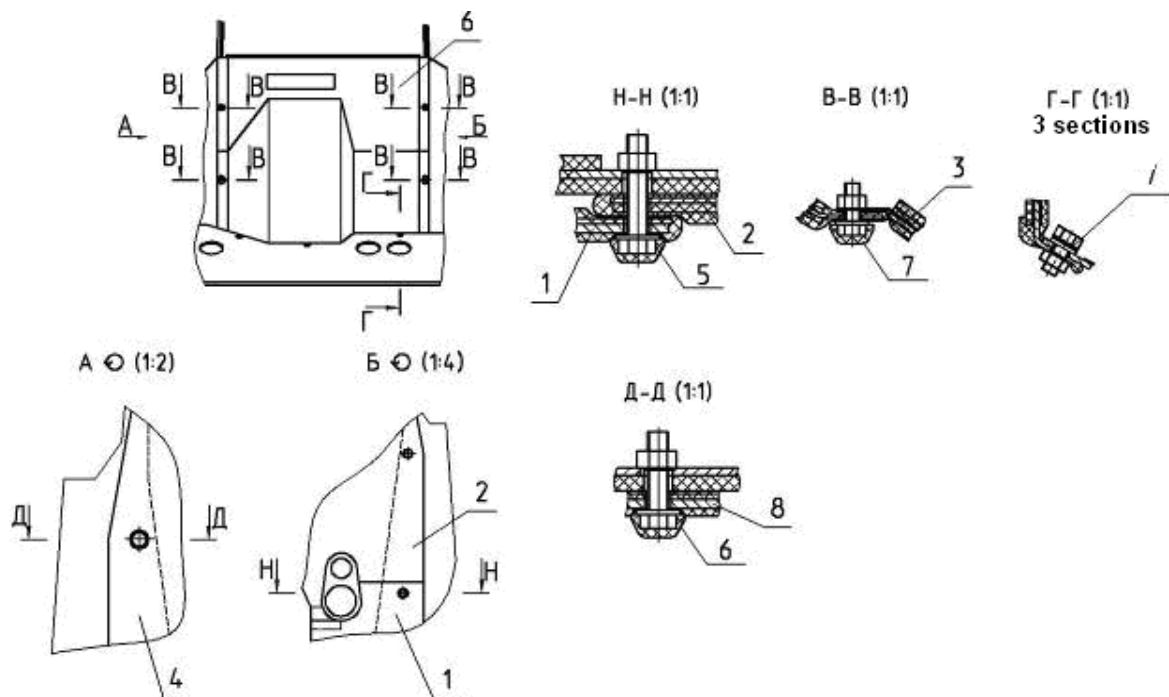

Figure 8.9
a) 1) unscrew bolt (6) (figure 8.9)) (section D-D), (7) (section B-B), remove left-side panel (4) 80-6700320;
b) unscrew bolts (5) (section H-H), (7) (section B-B), remove right-side lower panel (1) 85-6700330,
c) remove right-side higher panel (2) 85-6700340;
d) unscrew bolts (7) (section G-G) remove panel (3) 80-6700300.